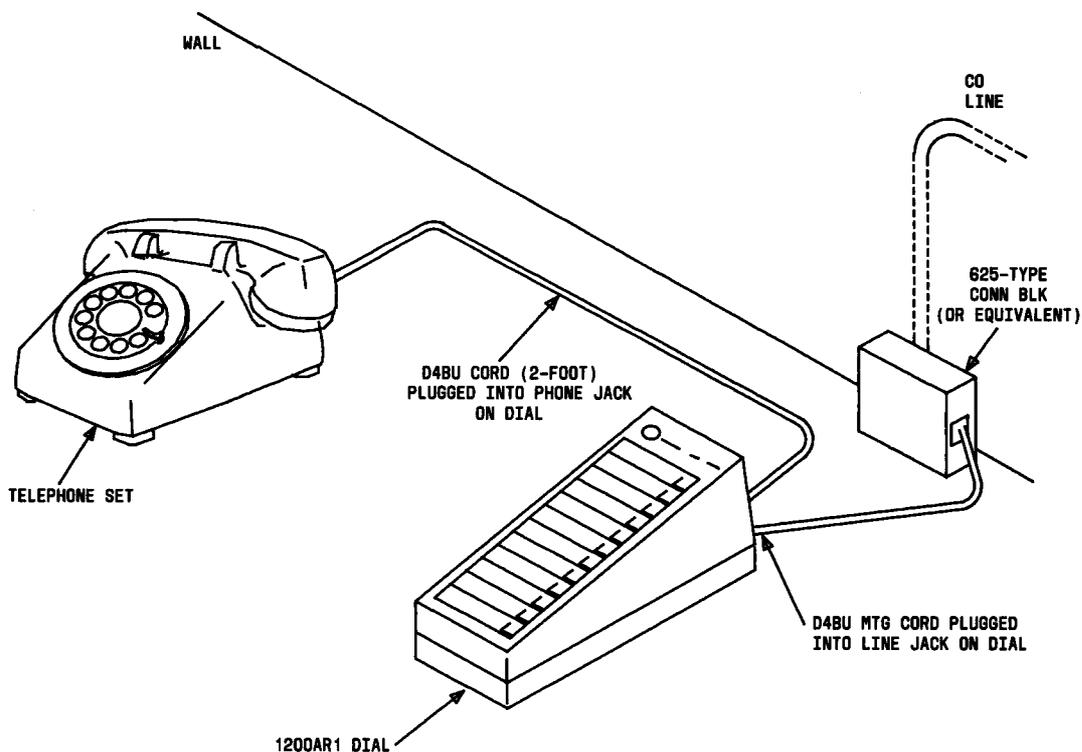

Fig. 3—Recommended Installation for Single Line Modular Desk Type Telephone Set
3.04 Plug one end of the standard D4BU telephone set mounting cord into LINE jack located under battery cover of the dial and other end into connecting block from CO. Plug one end of the two-foot D4BU mounting cord (furnished with the dial) into the PHONE jack on adjunct dial and plug other end of the cord into the telephone set mounting cord jack (Fig. 3).
- (3) Momentarily depress the RECORD ON/OFF button (Fig. 3). (A double tone will be heard.)
- (4) Momentarily depress the memory button adjacent to the desired name listed on the directory sheet. (A double interrupt of the tone will be heard.)
- (5) Manually dial the desired telephone number using the digit designations to the right of the memory buttons on adjunct dial, **not** the dial of the associated telephone set. (The tone will interrupt momentarily as each digit is recorded.) A total of 16-digits can be recorded. If 16-digits are recorded the dial will beep three (3) times and automatically end the recording procedure.